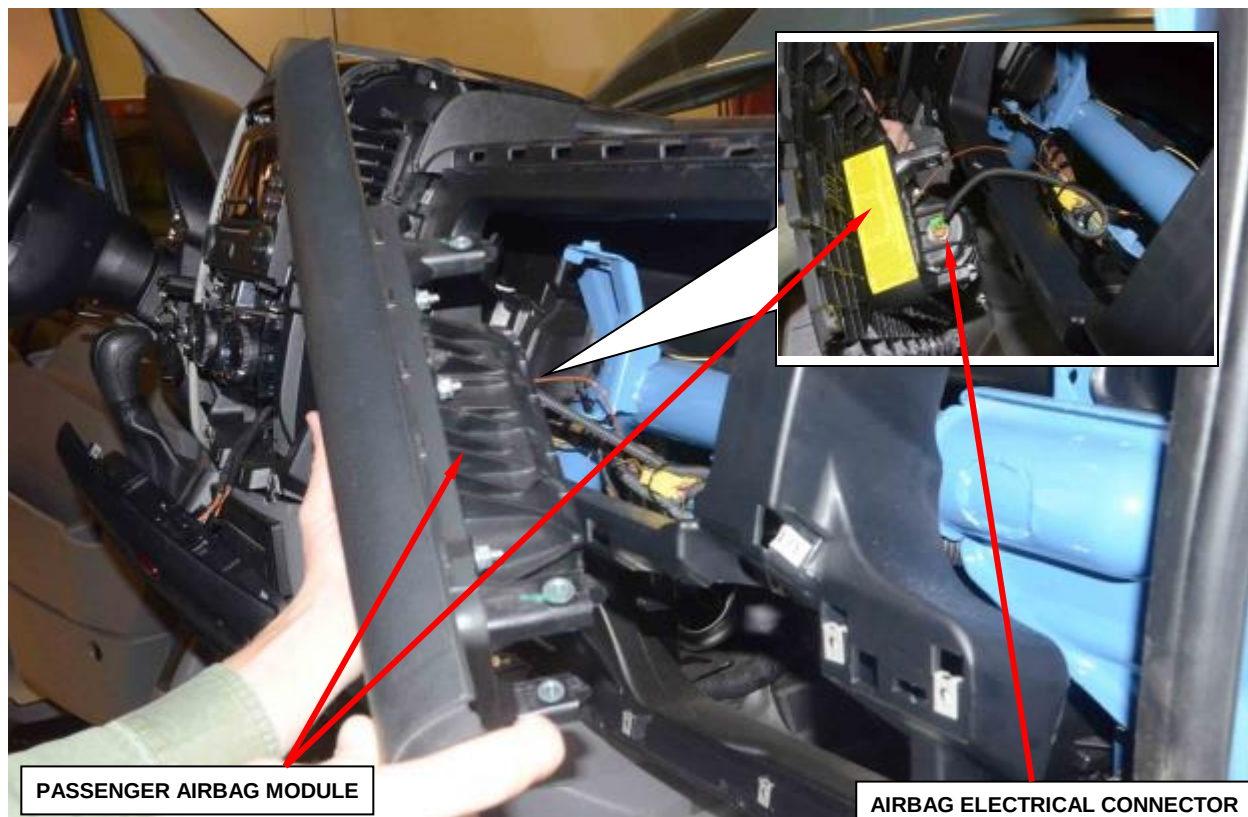

Figure 194 – Passenger Airbag Module
15. Pull the passenger airbag module rearward far enough to access the airbag electrical connector on the inboard end of the unit (Figure 194 and 195).